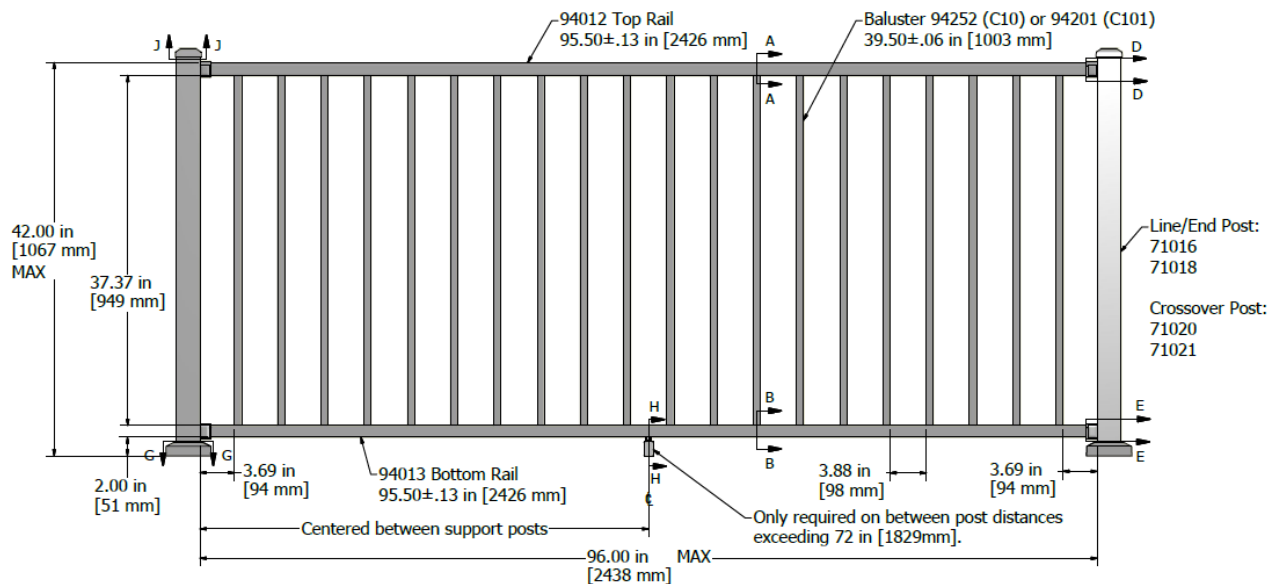

FIGURE 1 - WESTBURY® TUSCANY SERIES STYLE C10/C101 ALUMINUM RAILING SYSTEM
5.3 Guardrails may be assembled in various configurations. Refer to Figure 1 through Figure 11 for overall assembly and Table 2 for the fastening schedule.